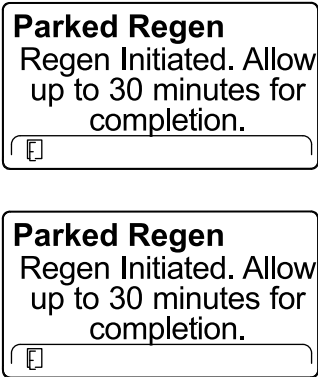

Figure 56
- The InfoCenter displays the time to complete message (Figure 56).